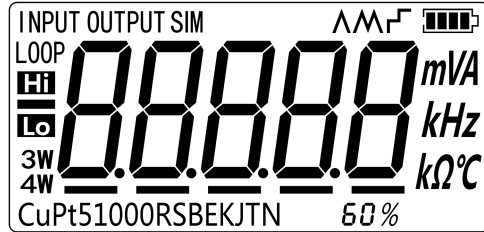

Figure 2.3-1
2. Please press  and  simultaneously until the buzzer work, then the screen will display as shown in Figure 2.3-1: